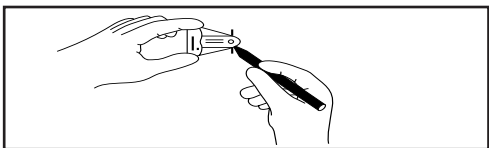

FIGURE 8
- When the magnet on the MAGNA-FINDER™ is perpendicular to the base of the MAGNA-FINDER™, mark the tissue with a surgical marker at the two notches on the base of the MAGNA-FINDER™. The line between these two marks indicates location of one plane, as shown in Figure 8. The MAGNA-SITE™ will be at one point along this plane.